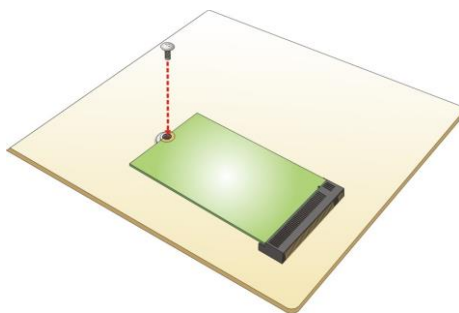

Figure 3-5: Securing the WLAN Module
Step 4: Secure the WLAN module with the retention screw previously removed (Figure 3-5).